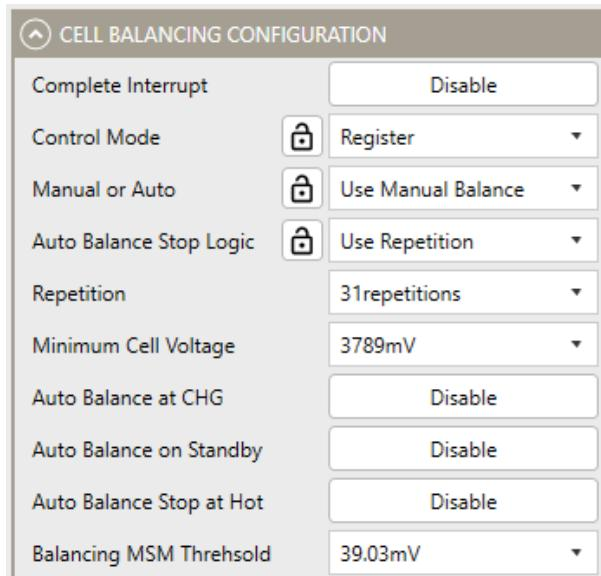

Figure 24: Cell-Balancing Configuration
20. Configure the cell-balancing parameters (see Figure 24).